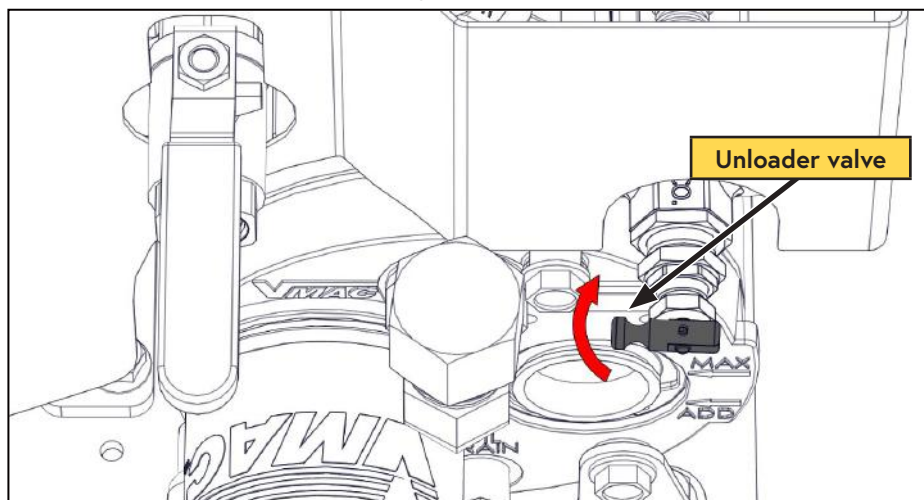

Figure 17 — Unloader valve
- 7) Once the engine has reached normal operating temperature, release the tension on the unloader valve (Figure 17).